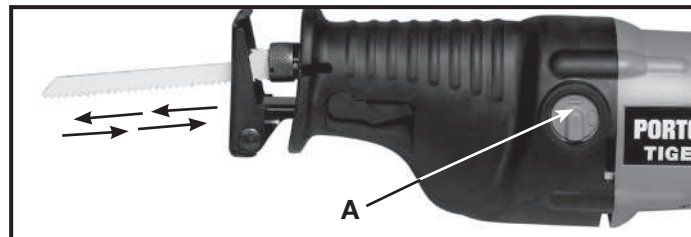
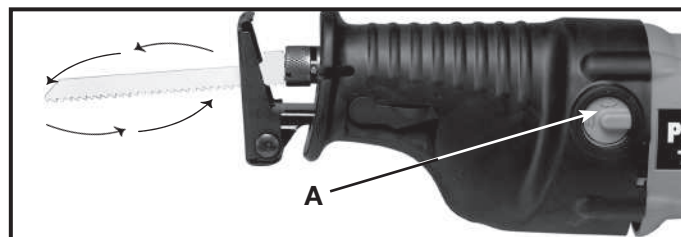

Fig. 10
Fig. 11
The **Model 748** has dual blade motion: you have a choice of straight reciprocating motion, as shown in Fig. 10, or orbital motion as shown in Fig. 11. Straight reciprocating motion should be used for all metal cutting operations, and for wood cutting applications where finish is more important than speed. Orbital motion is used for fast cutting of wood.
To set saw for straight reciprocating motion: rotate knob (A) Fig. 10, clockwise so that the bar is vertical (opposing arrow symbol up), as shown in Fig. 10.
To set saw for orbital motion: rotate knob (A) Fig. 11, counterclockwise so that the bar is horizontal (oval arrow symbol up), as shown in Fig. 11.
▲WARNING **ELECTROCUTION RISK.** Do not use the tool if knob (A) Fig. 10 & 11 is broken. Exposed metal parts may be made live if the blade cuts into live wiring within a wall.